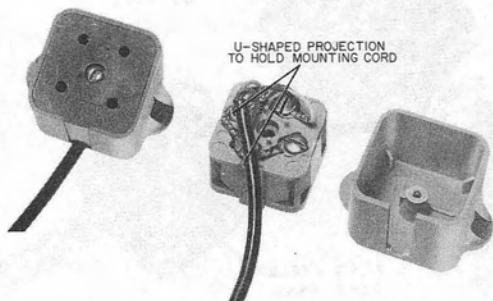

Fig. 44—423A Plug, Front View and Rear View Cover Removed
3.03 The 423A plug (Fig. 44) is a 2-piece, 4-contact molded plastic plug for use inside the 750-type panel telephone set. U-shaped projections are molded in the base for securing the mounting cord. Refer to Table C for color availability.